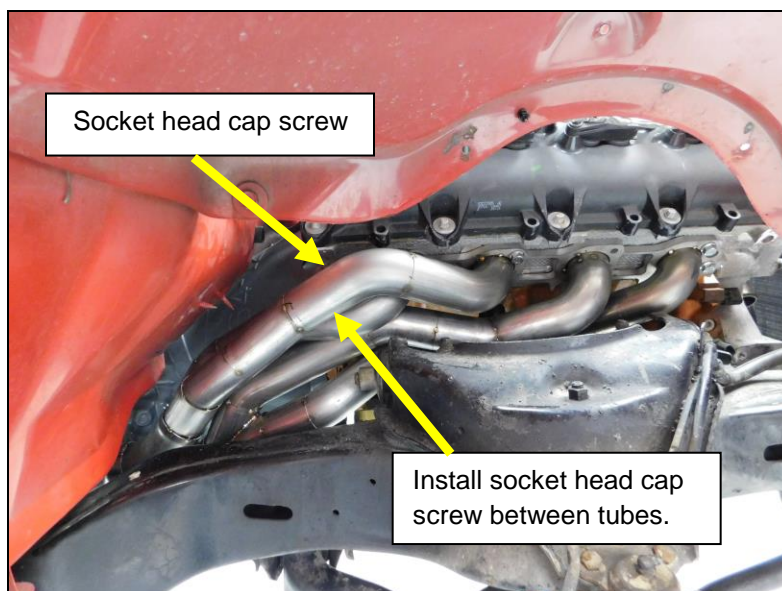

Figure 2
6. Install the header on to the bottom row of bolts and tighten the flanged header bolts until the header flange is touching the gasket but is still loose on the bolts. Install the upper row of flanged header bolts except the rear bolt. This will require the supplied M8 x 20mm socket head cap screw for access (**Figure 2**).